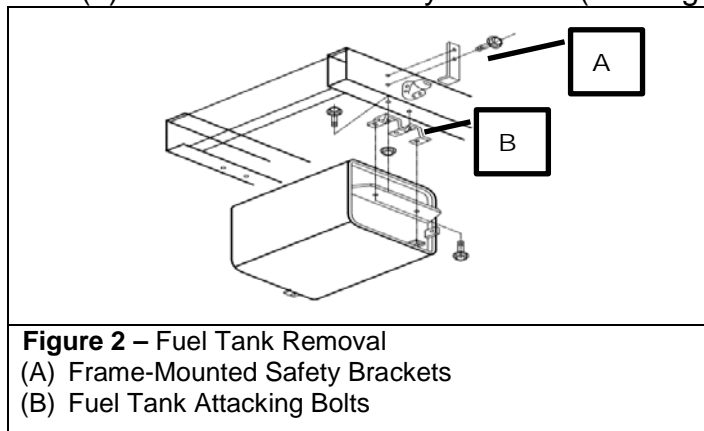

Figure 2 – Fuel Tank Removal
9. Remove the two (2) frame-mounted safety brackets (See Figure 2).
12. Remove the fuel tank attaching bolts (See Figure 2).